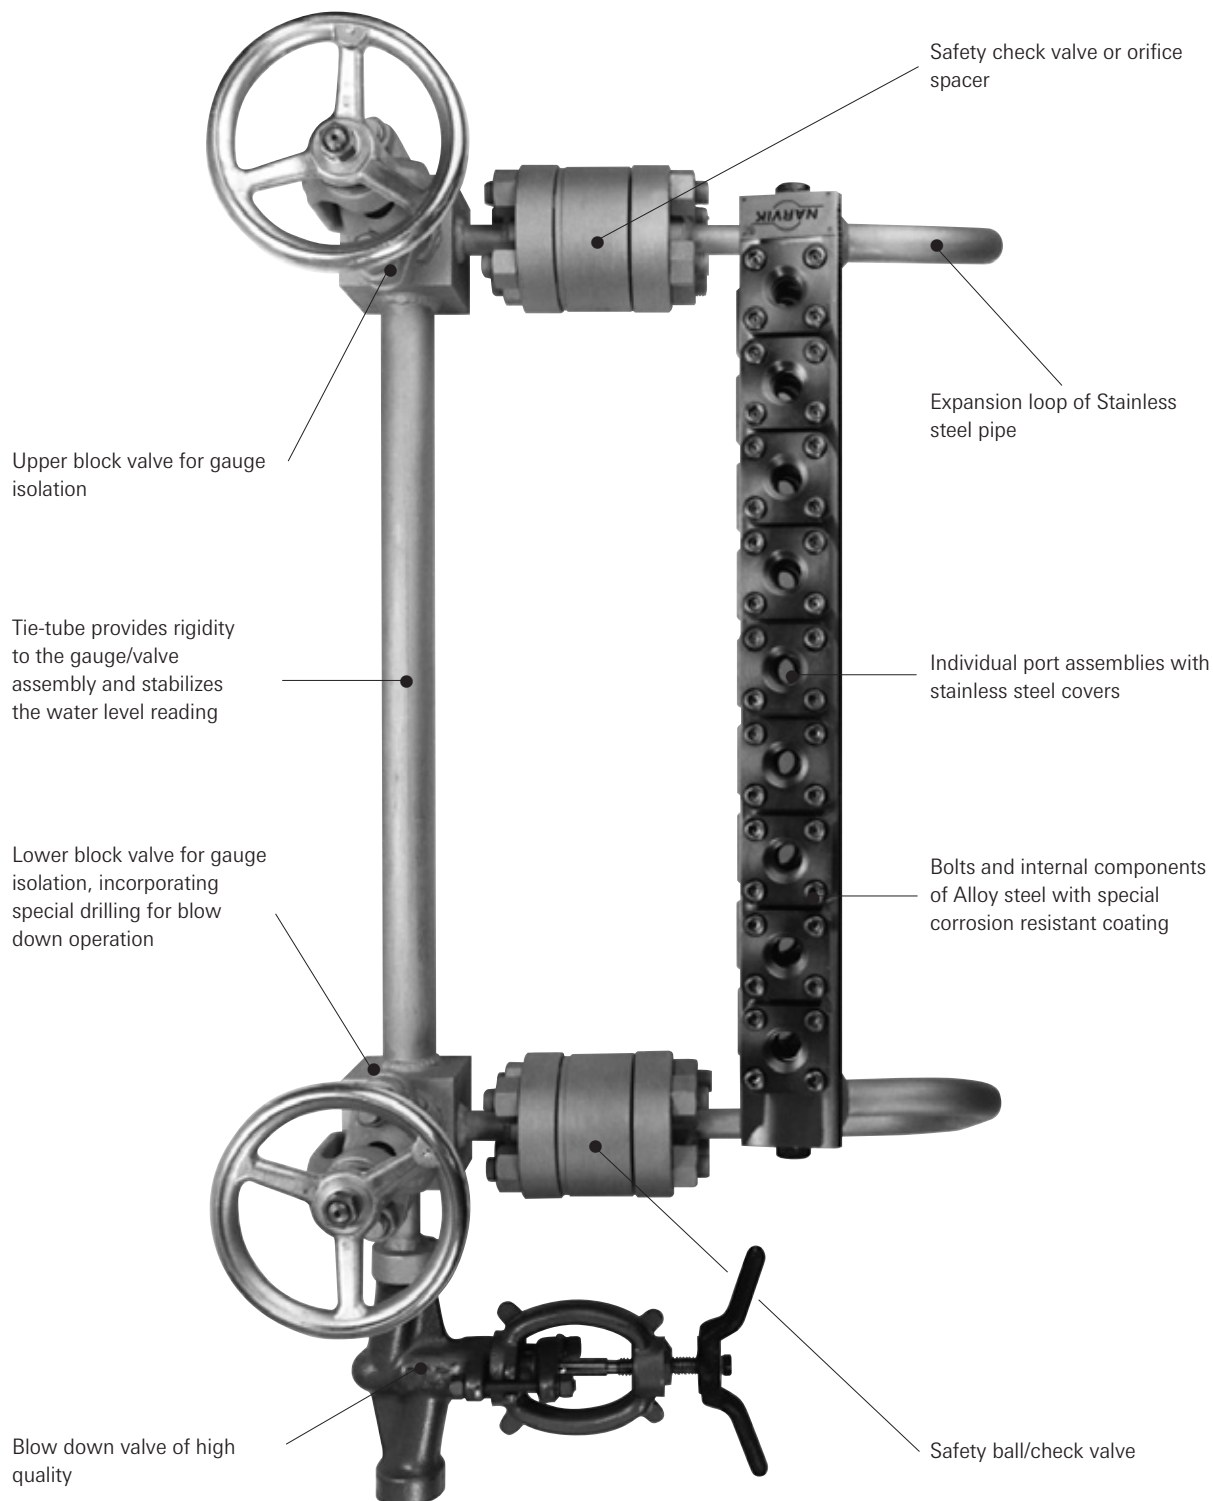

Figure 1
The Narvik-Yarway high pressure (dual color) gauge assembly (see figure 1) consists of a Stainless steel insert (1) which is provided with connecting pipes and flanges. The pipes also serve as expansion compensators, to absorb forces onto the gauge connections, due to thermal expansion. In the majority of applications, the insert is combined with a tie-tube and Narvik-Yarway own design block valves. The tie-tube provides rigidity to the system, as well as recirculation for the condensate and hence stabilizes the water level reading. The total assembly is flanged or welded to the boiler drum connections.